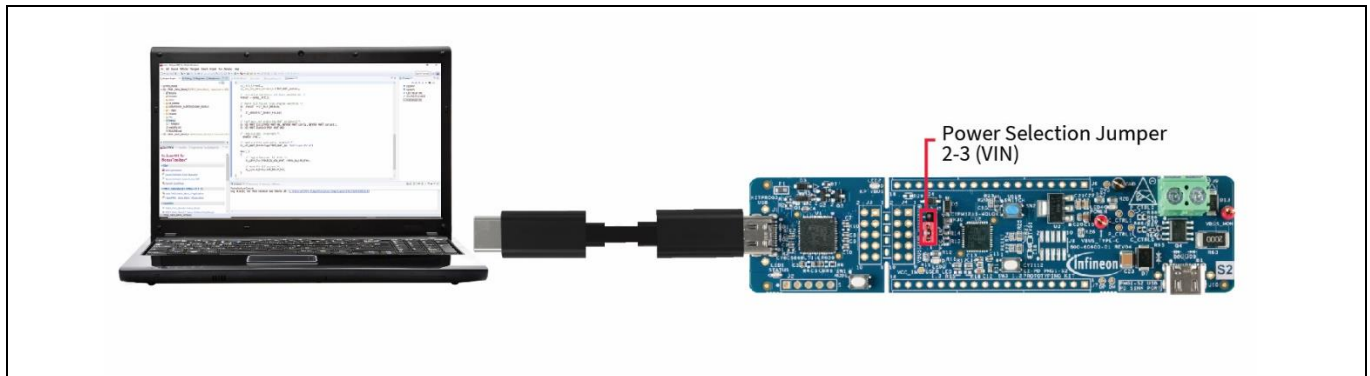

Figure 39 Programming through the KitProg3 interface
KitProg3 is a PSoC™ 5LP MCU-based onboard programming and debugging solution integrated with the EZ-PD™ PMG1 MCU prototyping kits. You can program and debug the kit without using any separate programming and debug module by setting the power selection jumper to short pins 2 and 3 and then connecting the kit to the PC using the programming connector as shown in **Figure 39**.
2. Connect the prototyping kit to the host PC through the KitProg3 connector. See Figure 39 for the setup.